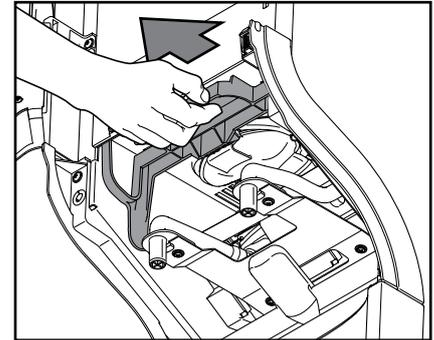

Fig. 44
- d. Pull the release bar to release the complete mixing console (fig. 44).